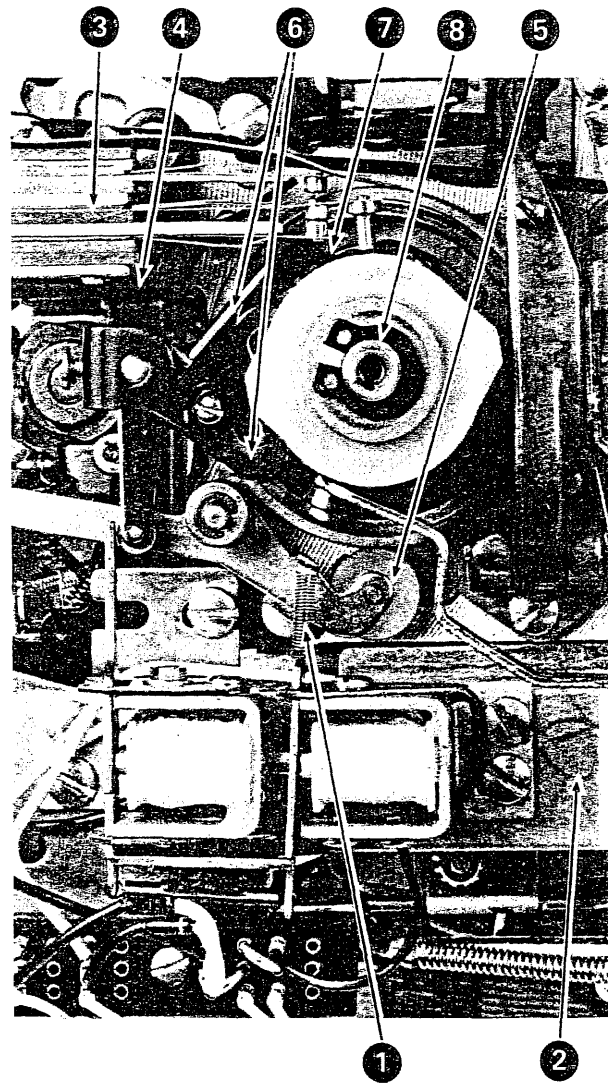

Figure 4-49. Shift-Cam Removal
2. Remove the lowercase-armature spring (No. 1, Figure 4-49).
3. Remove the shift-magnet assembly (No. 2, Figure 4-49).
5. Remove the C-7 contact assembly (No. 3, Figure 4-49).
6. Remove the shift-release support bracket (No. 4, Figure 4-49).
7. Remove the detent assembly (No. 5, Figure 4-49).
8. Remove the shift-release arm and the shift-interlock assembly (No. 6, Figure 4-49).
9. Remove the retaining ring from the shaft and remove the shift-clutch ratchet (No. 7, Figure 4-49).
11. Remove the shift arbor from the operational shaft (No. 8, Figure 4-49).
12. Remove the shift cam (No. 9, Figure 4-49).